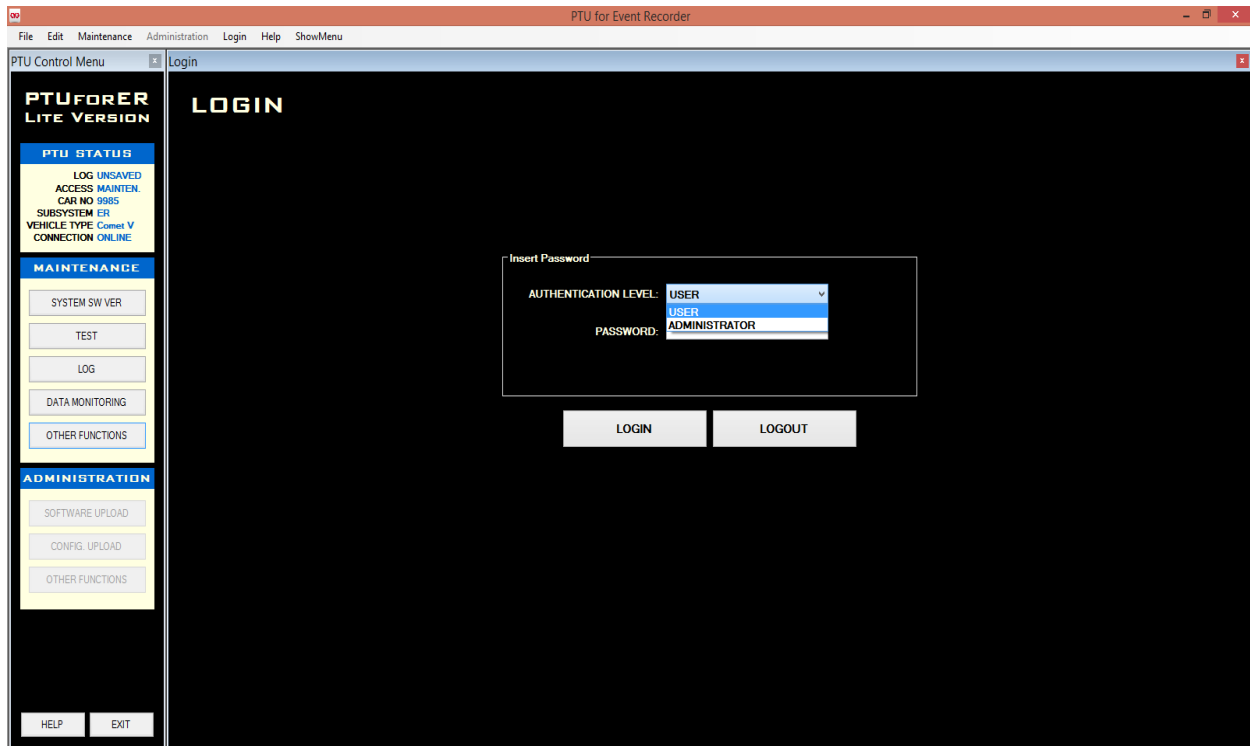

Figure 8-5: PTUforER-Lite Login Screen
3. You must log in as an administrator to upload the software. See Figure 8-5.